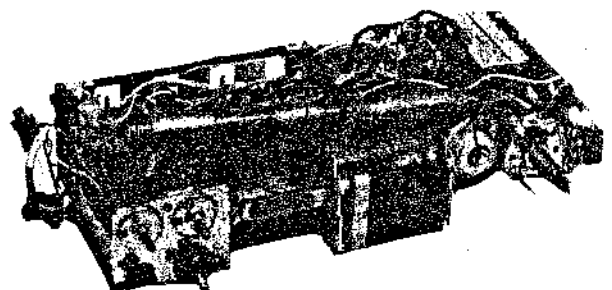

Fig. 2-13
17. Carefully remove the printed circuit board in the direction shown by the arrow in Fig. 2-13.